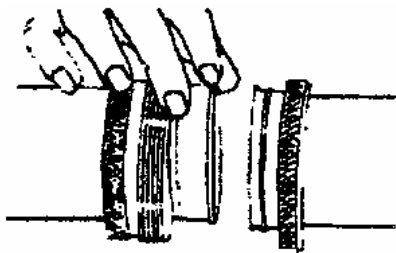

Figure 12. Installing Washers
- b. Install metal washers on ferrules (Figure 12).